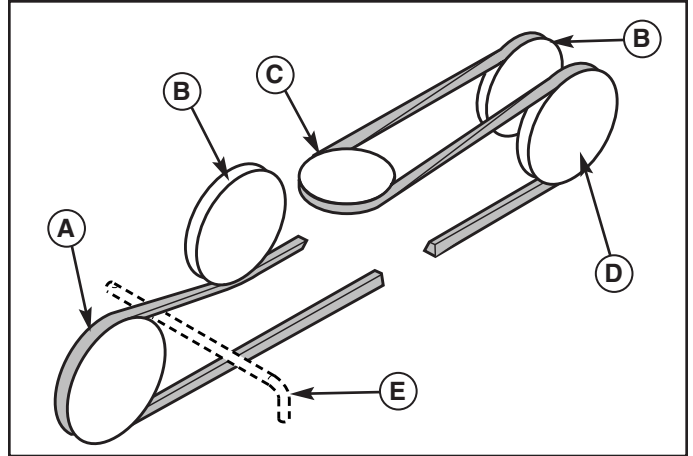

Figure 31. Belt Routing
7. Route the drive belt as shown in Figure 31. Note that the back of the belt rides in the back-side idlers (B).